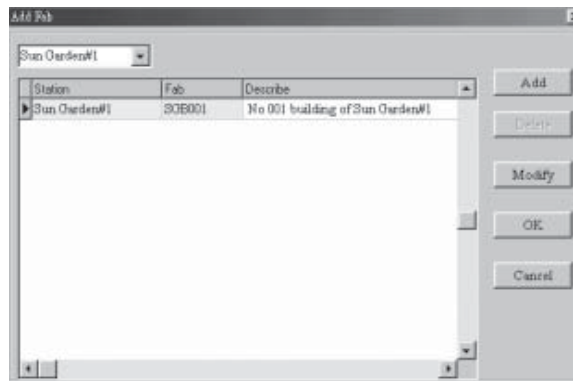

**Fig. 4-7 Adding or Modifying FABs Dialogue Frame 2**
2.1 Click 'Add' and enter the next dialogue frame as in Fig. 4-7. Enter the Controller Name, Controller Address and Controller Type.